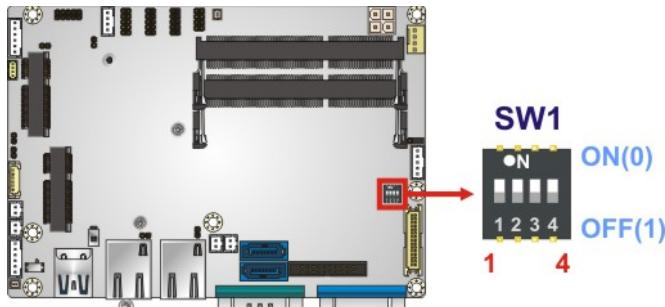

Figure 4-15: LVDS Panel Type Selection Switch Location
**Jumper Location:** See Figure 4-15